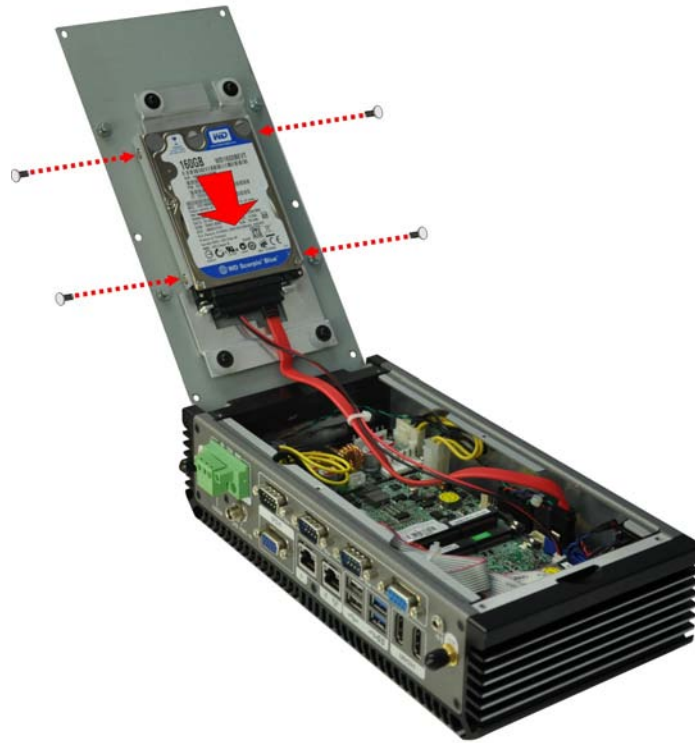

Figure 3-3: HDD Retention Screws
Step 3: Attach the HDD to the HDD bracket, and then slide the HDD to connect the HDD to the SATA connector. Secure the HDD with the HDD bracket by four retention screws (**Figure 3-3**).